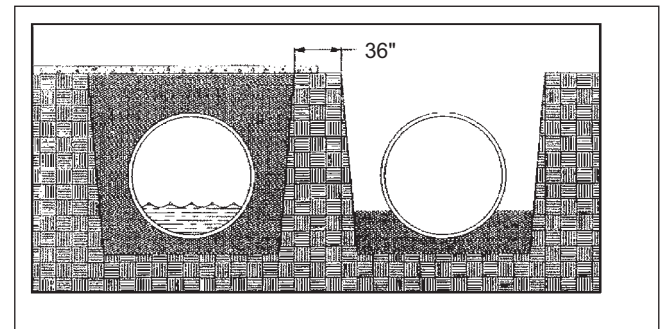

FIGURE 17-1
17.2.1. The preferred method is to install new tank(s) in a separate hole if space allows and/or if existing tank(s) must remain in service during installation of the new tank(s). The preferred method is described here. See FIGURE 17-1.